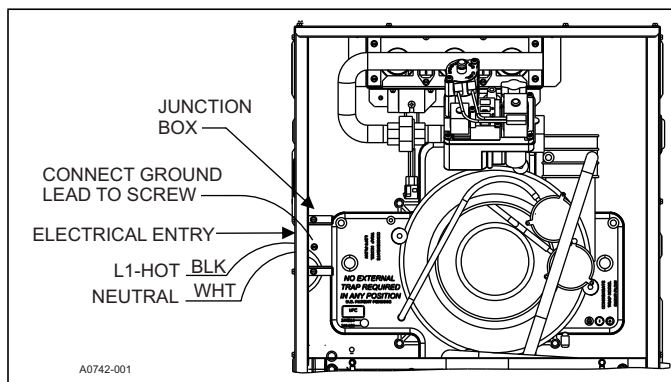

FIGURE 13: Electrical Wiring
2. Remove the wiring box cover screws. Route all power wiring through a conduit connector or other proper bushing that is field installed into the unit opening and the junction box. In the junction box, there is a black wire, a white wire, and a green ground screw. Connect the power supply as shown on the unit's wiring label located on the inside of the blower compartment door, or the wiring schematic in this section. Connect the black wire to L1 (hot) from the power supply. Connect the white wire to neutral. Connect the ground wire (installer-supplied) to the green (equipment ground) screw. An alternate wiring method is to use a field-provided 2 in. (5.1 cm) x 4 in. (10.2 cm) box and cover on the outside of the furnace. Route the furnace leads into the box using a protective bushing where the wires pass through the furnace panel. After making the wiring connections, replace the wiring box cover and screws. See Figure 13.
3. The furnace's control system requires correct polarity of the power supply and a proper ground connection. See Figure 13.